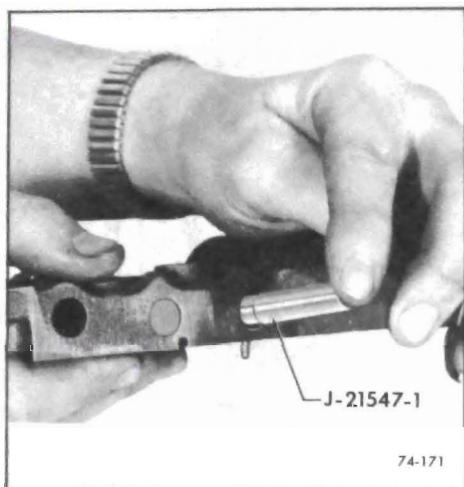

Figure 74-170
3. Depress modulator limit spring with Tool J-21547-1 and remove. Retaining pin will fall free. Remove spring and valve. See Figure 74-170.